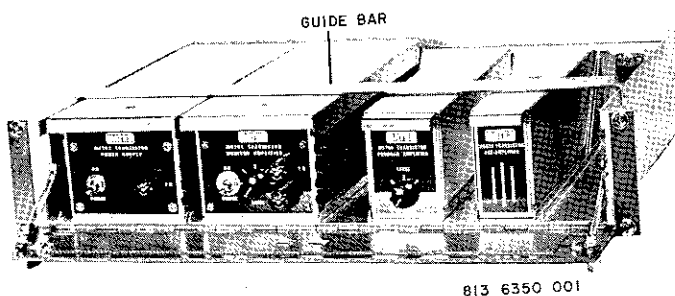

Fig. 3 - Shelf Assembly With Guide Bar
3. Determine whether or not the guide bar, shown in Fig. 3, will be required. The purpose of this bar is to prevent possible damage to the mating connectors when upward pressure is inadvertently applied to the amplifier during withdrawal. The bar will be required only where no other protecting obstruction is present in the rack, or where the shelf is used at a location such as a work bench.